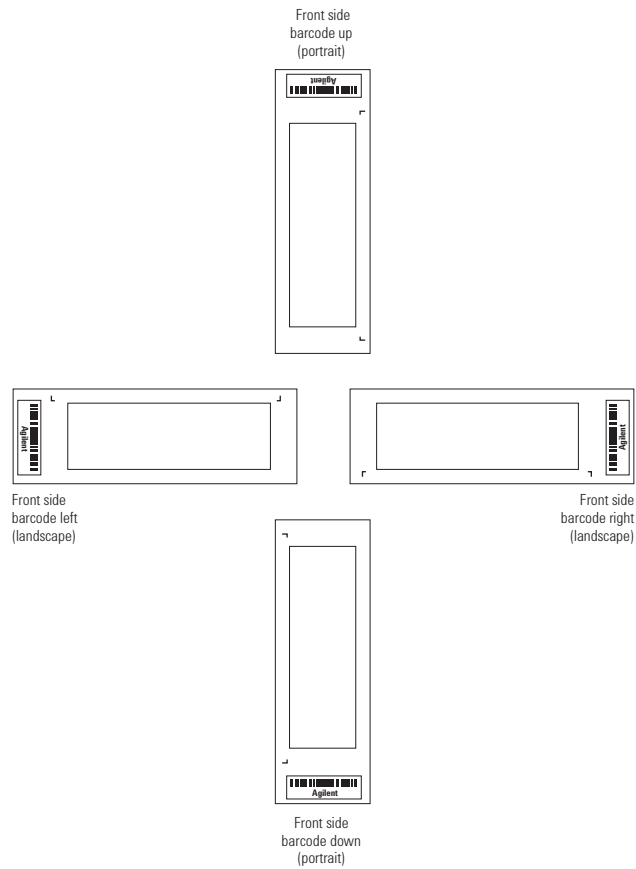

Figure 7 Microarray slide orientation
- If the microarray image produced by the non-Agilent scanner is oriented in a “portrait” or “landscape” mode, and “Agilent”-labeled barcode is on the left-side, right-side, up or down, as viewed as an image in the imaging software (see Figure 7).